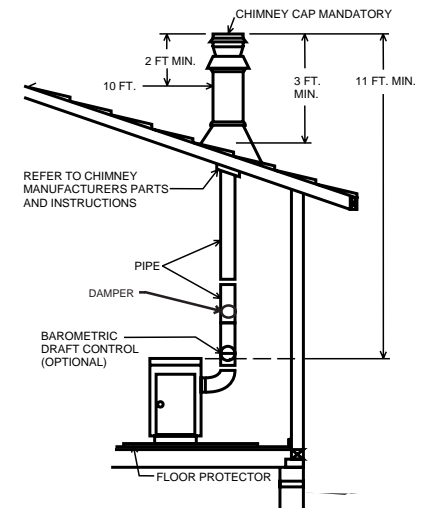

FIG. 6
5. The chimney top may be lower than another part of the house or a nearby tree. The wind blowing over a house or a tree falls on top of the chimney like water over a dam, beating down the smoke. The top of the chimney should be at least 3 feet higher than any point of the roof within 10 feet (Fig. 6).